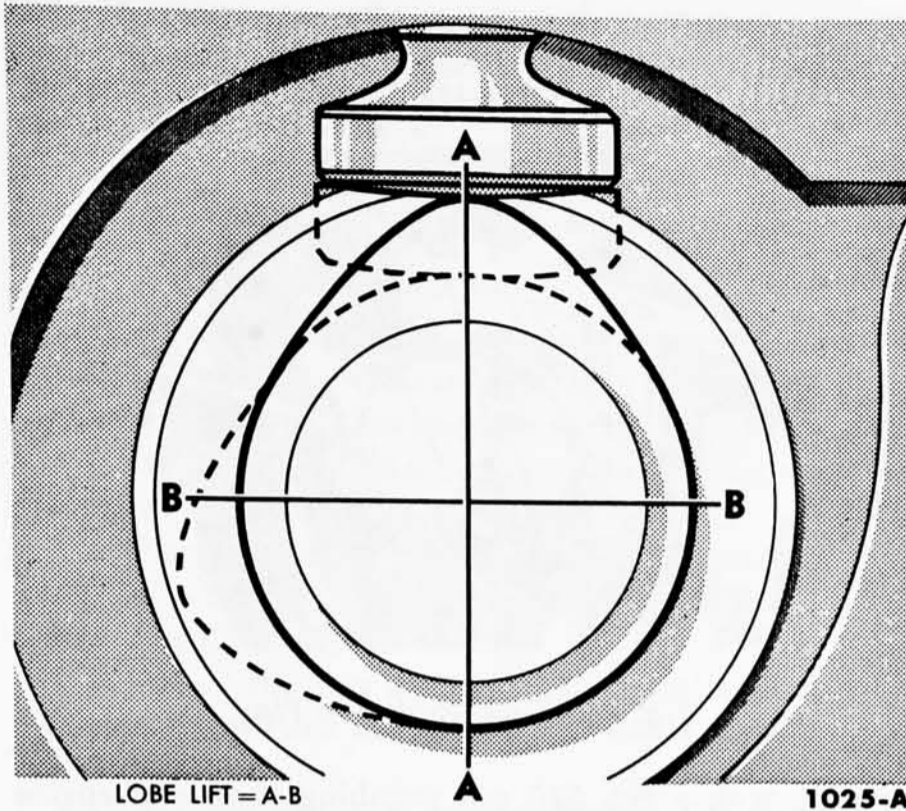

Fig. 23—Camshaft Lobe Lift Measurement
**CLEANING AND INSPECTION.** Clean the camshaft in solvent and wipe dry. Inspect the cam lobes for pitting, scoring, and signs of abnormal wear. Lobe wear characteristics may result in pitting in the general area of the nose portion of the lobe. This pitting is not detrimental to the operation of the cam, therefore, the cam should not be replaced until the cam lobe lift loss has exceeded 0.005 inch. The lift of suspected worn lobes should be checked by measuring over the top of the lobe with a micrometer and subtracting the measurement of the base circle diameter (Fig. 23).